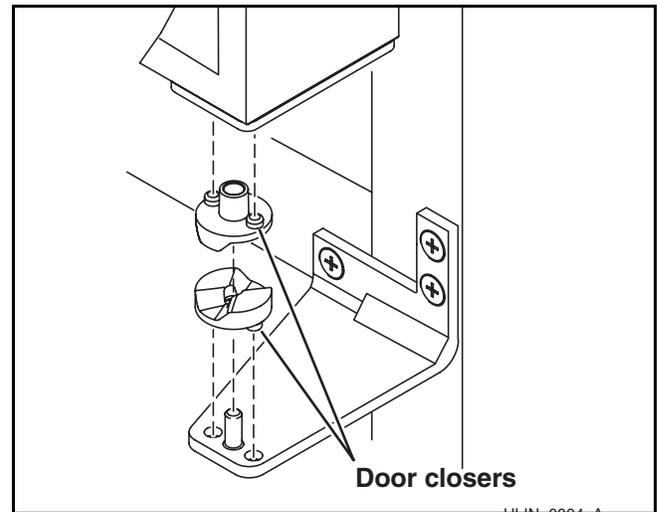

Figure 19
16. Position door over closer. Be sure the door hinge plate holes align with the bosses on the closer (**Figure 19**). Failure to do so will result in the door not sitting in the proper position and door will not align correctly. (Sometimes it is helpful to open the door 180° to have the closer and pivot plate align correctly.)